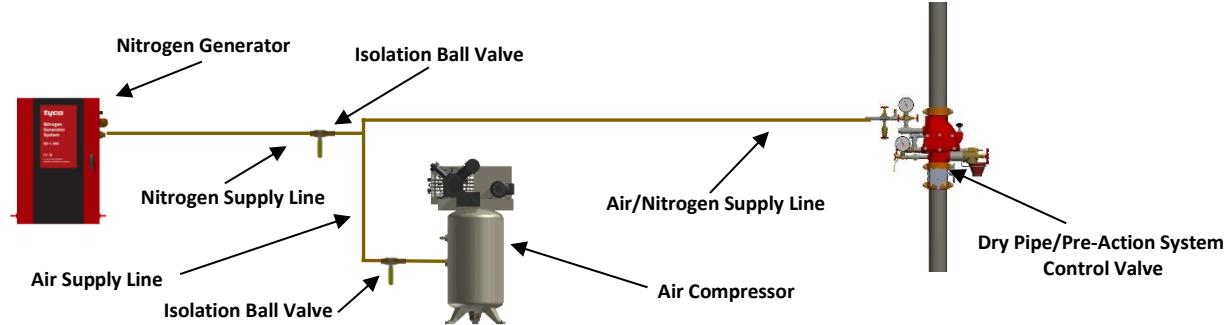

**Figure 3a**
**Step 3a: Plumb the Nitrogen/Air Supply Line – No Additional Air Compressor (Figure 3a)**